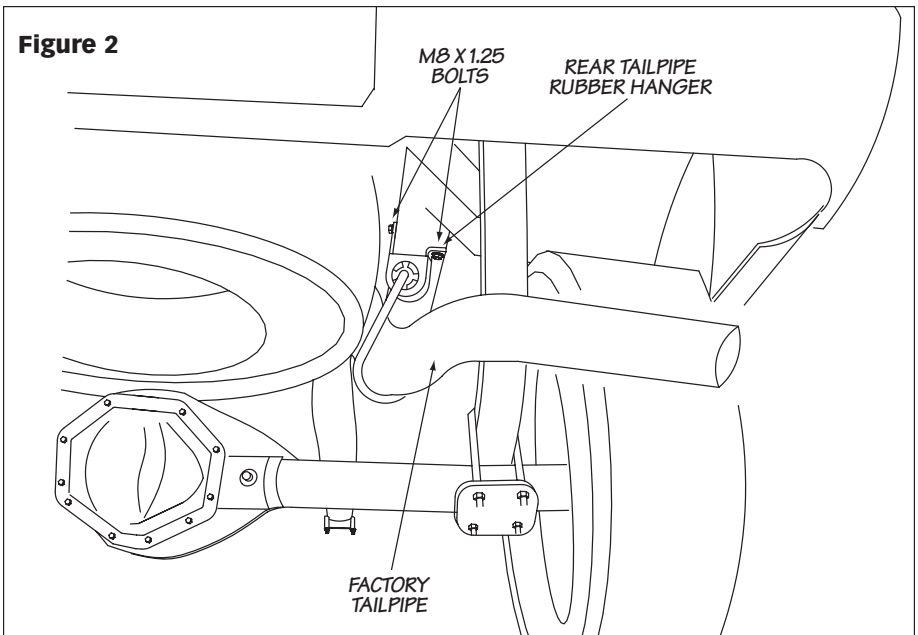

Figure 3
4. Loosen the factory band clamp at the front of the muffler. Using spray lubricant, lube the front and rear muffler hanger pins. Remove the muffler and tailpipe assembly from the vehicle (see **Figure 3**).
6. FOR SC/MB AND EC/SB MODELS ONLY, due to the enormous weight reduction of the Banks Exhaust system, the factory muffler front rubber hanger will be removed for Std. Cab Medium (6.5') Bed and Ext. Cab Short (5.5') Bed models. Remove the factory M8x1.25 bolt on the rubber muffler hanger, and remove the rubber hanger from the vehicle (see **Figure 3**).